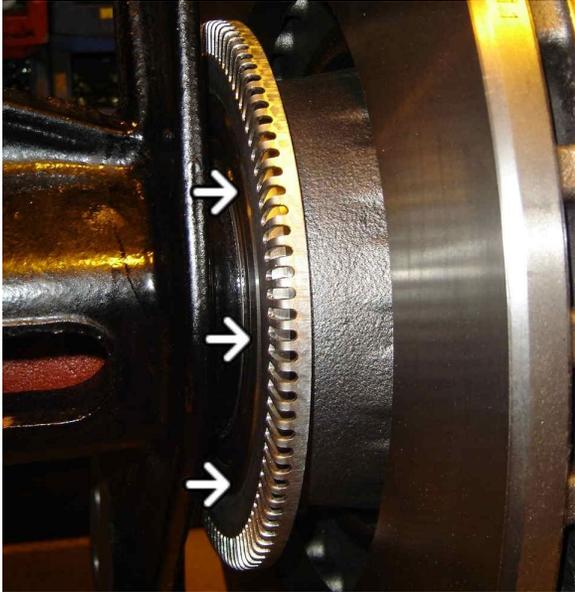

Figure 28: NO PLAY BETWEEN THE BEARING AND THE SPINDLE SHOULDER
10. Make sure there is no play between the bearing and the spindle shoulder (Figure 28).